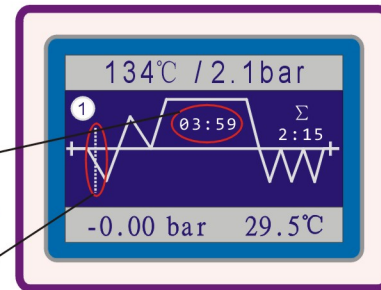

Fig.6.4-16
(2) **First times Pre-vacuum stage:** when the temperature over than 40°C, the sterilizer will start to do vacuum and the control system will open the vacuum pump solenoid valve (Ev4). LCD show 03:59 countdown. if within 4 minutes, the vacuum value of less than Pv (factory default setting 23L: Pv=-0.75bar; 18L: Pv=-0.80bar) value, there will be alarm E12 or the vacuum value reaches Pv value in advance, sterilization program into heating stage in advance. (Fig.6.4-16)